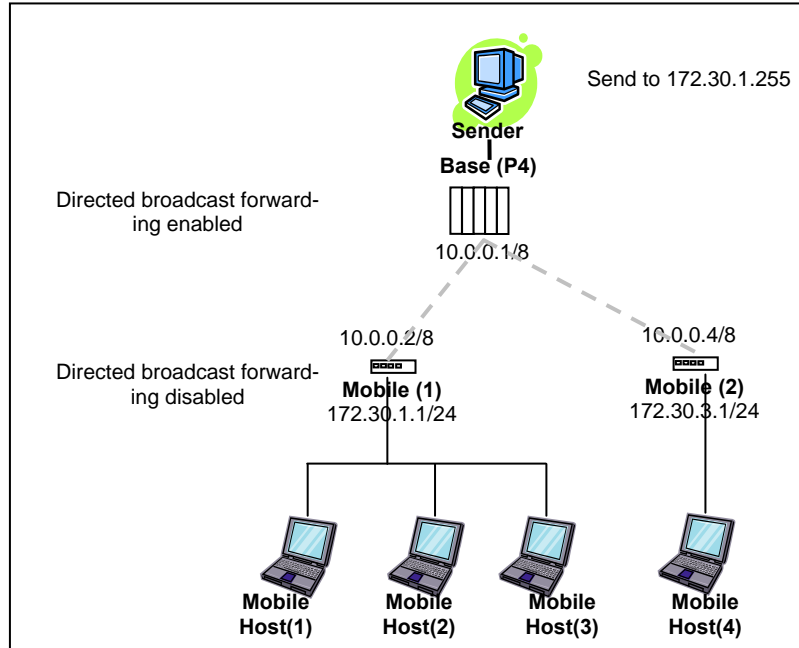

Figure 41 - Example of Directed broadcast forwarding disabled
In this example (Figure 41), directed broadcast forwarding is enabled on the **Base** unit and disabled on the **Mobile (1)** unit. If **Sender** sends a packet to destination address 172.30.1.255, the packet would be discarded by **Mobile (1)**, it would not reach **Mobile Host (1)**, **Mobile Host (2)** and **Mobile Host (3)**.